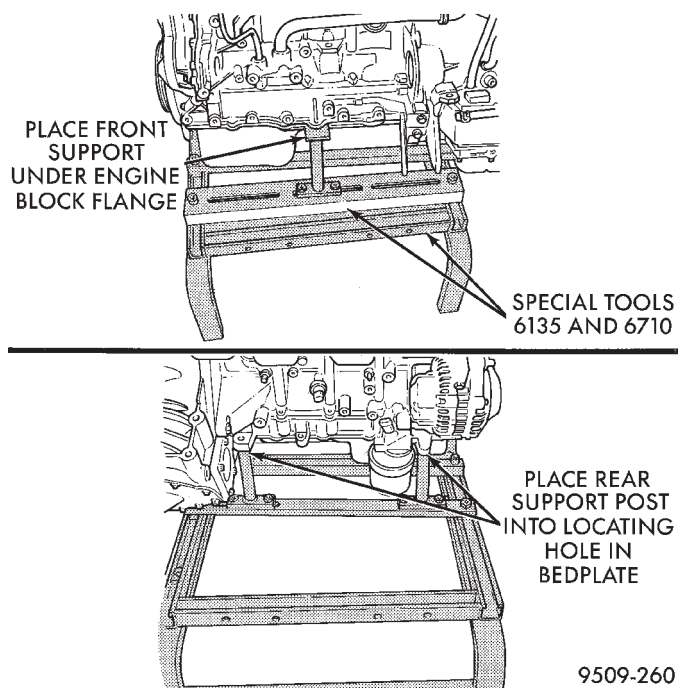

Fig. 17 Positioning Engine Cradle Support Post Mounts
- (18) Lower vehicle. Remove air cleaner assembly.
- (19) Remove power steering pump and reservoir. Set them aside.
- (20) Remove A/C compressor.
- (21) Remove ground straps to body.
- (22) Raise vehicle enough to allow engine dolly and cradle Special Tools 6135 and 6710 to be installed under vehicle.
- (23) Loosen engine support posts to allow movement for positioning onto engine locating holes and flange on the engine bedplate. Lower vehicle and position cradle until the engine is resting on support posts (Fig. 17). Tighten mounts to cradle frame. This will keep support posts from moving when removing or installing engine and transmission.
- (24) Install safety straps around the engine to cradle tighten; straps and lock them into position.
- (25) Raise vehicle enough to see if straps are tight enough to hold cradle assembly to engine.
- (26) Lower vehicle so weight of the engine and transmission ONLY is on the cradle assembly.
- (27) Remove engine and transmission mount thru-bolts.
- (28) Raise vehicle slowly. It may be necessary to move the engine/transmission assembly with the cradle to allow for removal around body flanges.